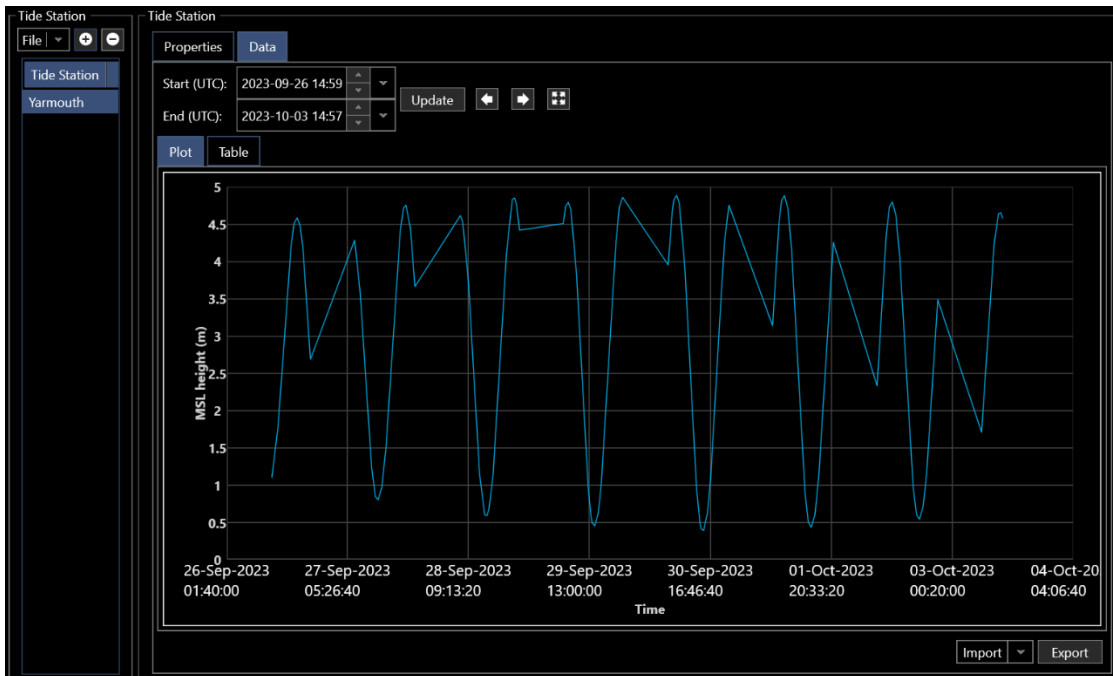

FIGURE 14-60 TIDES – MANAGEMENT – TIDE STATION – DATA TAB – TIDE DATA GRAPH
- II. Plot tab displays graphically the imported tide data (see Figure 14-60). The Table tab displays a data listing (see Figure 14-61)